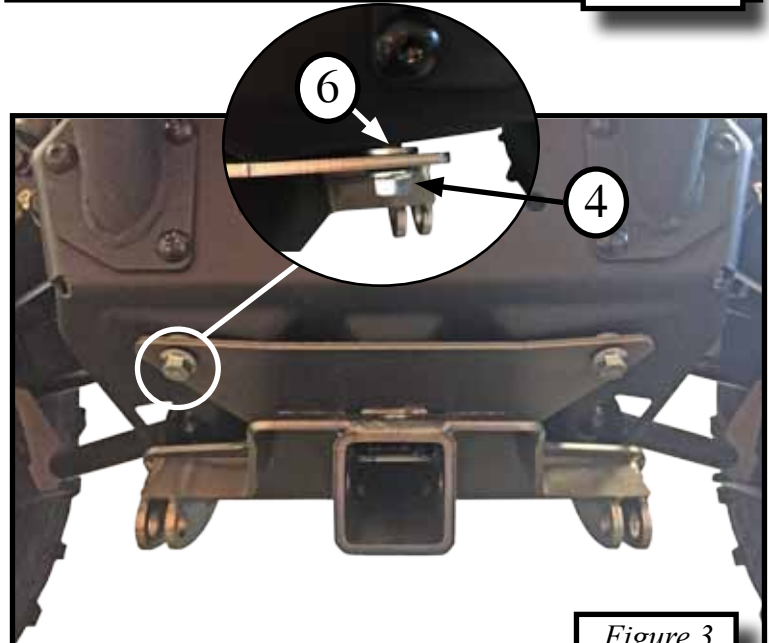

Figure 3
2. Insert the shorter 3/8" bolts (4) through mounting plate. If you have the stock OEM bumper apply the 3/8" SAE flat washers (6) on back side of plate if installing on stock OEM bumper. Disregard washers if installing on KFI winch mount. Position mounting plate, bolts and washers to machine as shown in *Figure 3*. Loosely thread nuts onto bolts. **DO NOT TIGHTEN AT THIS TIME**.